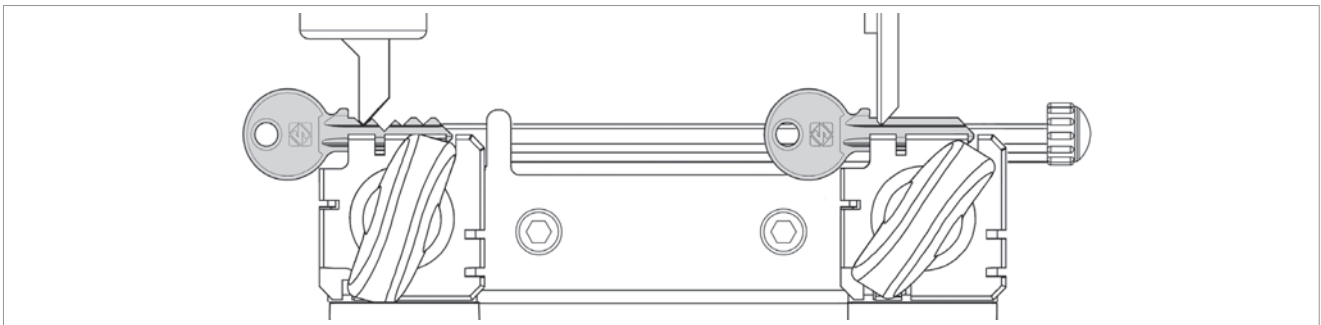

Fig. 24
- 1) Unlock the carriage with lever (B), use handle (A) to bring the carriage towards tracer point/cutter and keep the tracer on the cuts starting from the key stop (Fig. 24).
- 2) To copy the key move the carriage sideways from right to left by means of the lever (D). In case of double cuts repeat the operation in the second side of the key.
- 4) Turn off the switch (N) before removing the duplicated key.
- 6) Turn on the cutter motor with switch (N) and smooth off the key edges by means of the brush (P).